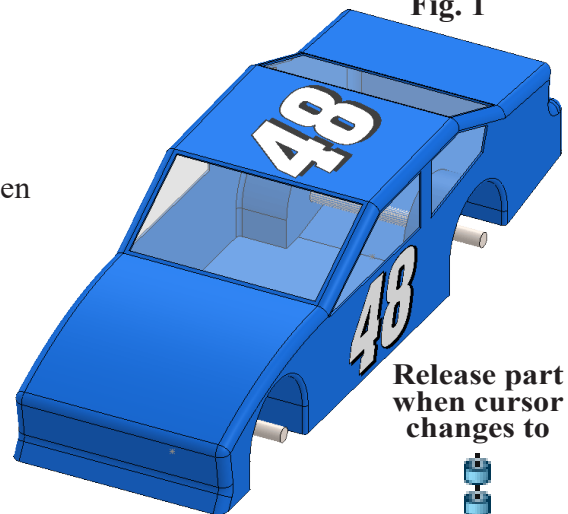

Fig. 2
Step 6. Position **Axle** near Front Axle hole, **Fig. 2**. When Axle snaps into place and cursor changes to indicate a Concentric mate , click to release Axle.
Step 7. Position **Axle** near Rear Axle hole, **Fig. 2**. When Axle snaps into place and cursor changes to indicate a Concentric mate , click to release Axle.